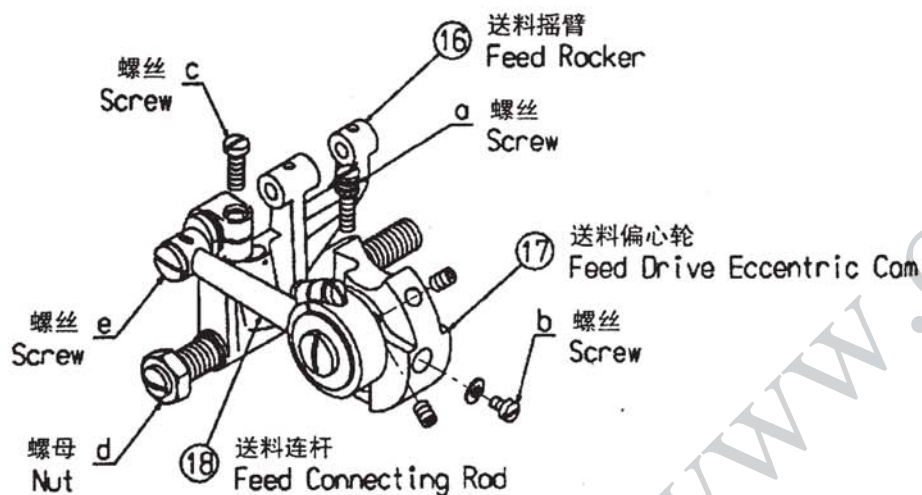

Fig.11
Loosen nut, (d) of Fig.11, of Feed Dog ⑫, and adjust position of Feed Rocker ⑮ so that $A=A'$ is obtained. Tighten nut (d) and confirm that Feed Rocker ⑮ moves smoothly.
Adjust Feed Drive Eccentric Cam ⑰ with its adjust screw, (a) of fig.11, so that feed amount of Feed Dog ⑫ is 10mm. To adjust, loosen screw, (b) of Fig.11, of Feed Drive Eccentric Cam, ⑰ and turn adjust screw (a) counterclockwise to increase feed amount, and clockwise to decrease it.
Loosen screw, (b) of Fig.11 of Feed Drive Eccentric Cam ⑰, and turn adjust screw (a) counterclockwise to enlarge stitch spacing, and clockwise to reduce it. Tighten screw (b) tentatively, and run several pieces of material to test to confirm that you get required stitch spacing. Finally, fasten screw (b) firmly.